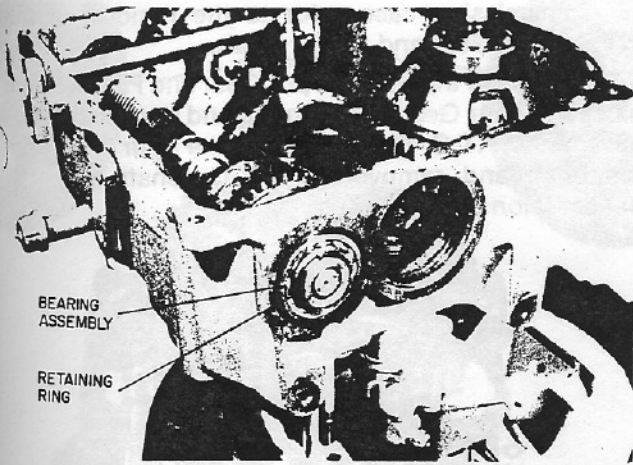

Figure 30
38. Remove the retaining ring from the P.T.O. shaft. Using a punch and hammer, gently tap around the bearing and remove from the transmission case. The bearing is removed to the outside of the case. See fig 30.
6. Install the bearing cap assembly. See figure 30.